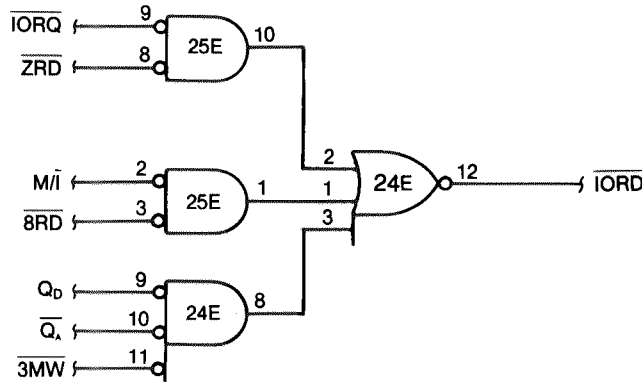

FIGURE 2-46. READ SIGNAL GENERATOR
2.3.3.2 I/O Read Signal Generator (Figure 2-46)